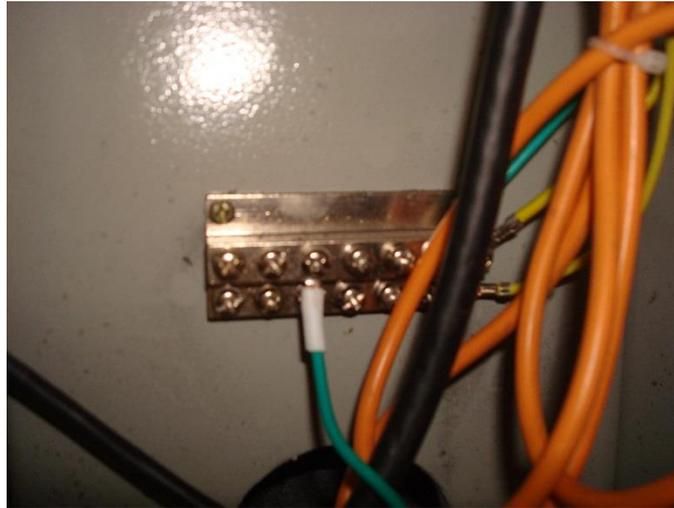

Figure 3-85
- 4) Connect the green wire to the ground bar inside the column (Figure 3-85).